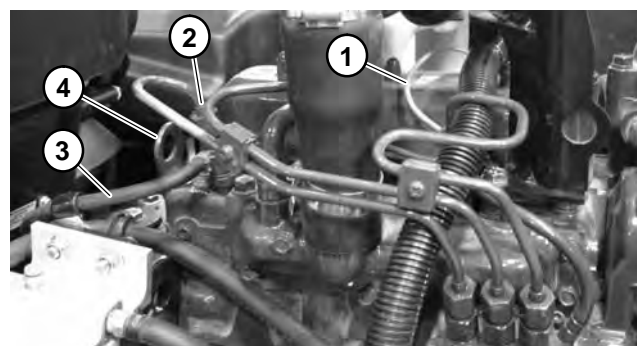

Figure 10
B. Glow plug bus (Fig. 10) and fuel stop solenoid.
12. Remove cable ties securing the wire harness to the front lift tab and other engine parts. Connect hoist or lift to the front and rear lift tabs (Fig. 10).
3. Connect hoist or lift to the front and rear engine lift tabs (Fig. 10).
C. Glow plug bus (Fig. 10) and fuel stop solenoid.